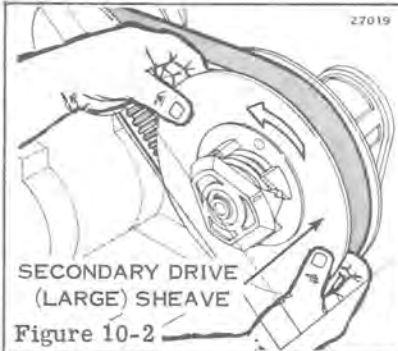

Figure 10-2
- c. To release belt, pull secondary sliding sheave while twisting to left, Figure 10-2.